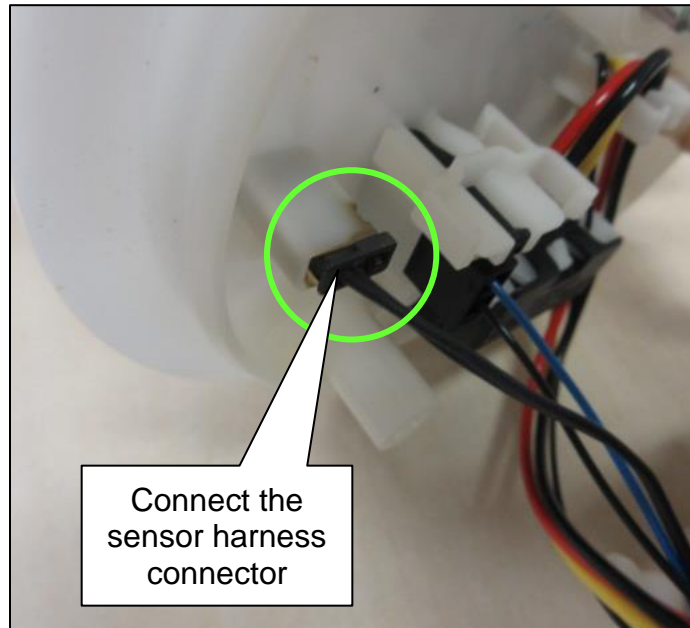

Figure 17
9. Connect the new fuel temperature sensor harness connector to the fuel pump as shown in Figure 17.